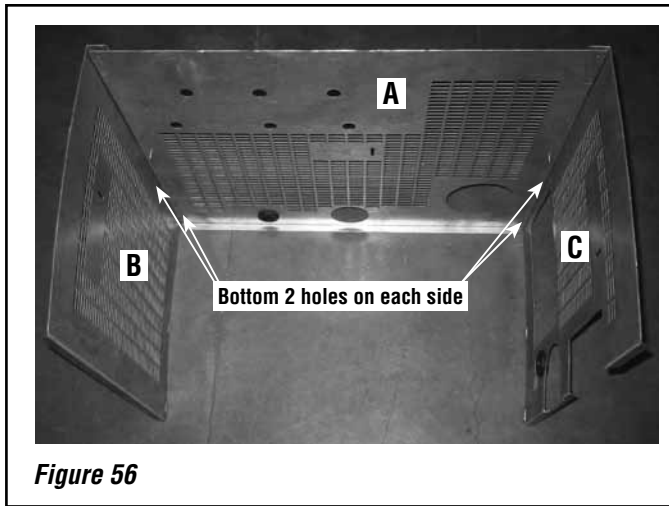

Figure 56
3. Assemble the perimeter (see Figure 56) - Using only the bottom 2 holes on each side, screw the left side panel (B) and the right side panel (C) to the back panel (A).